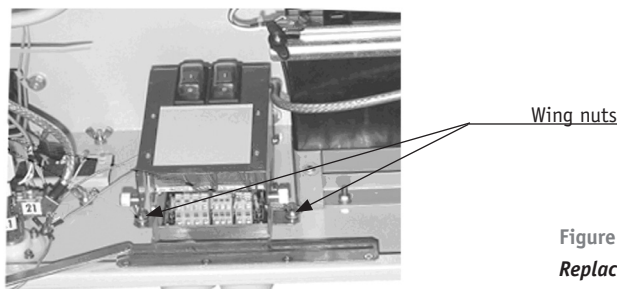

Figure 84
3. Unscrew two wing nuts fixing PSFM and remove washers (Fig. 84).